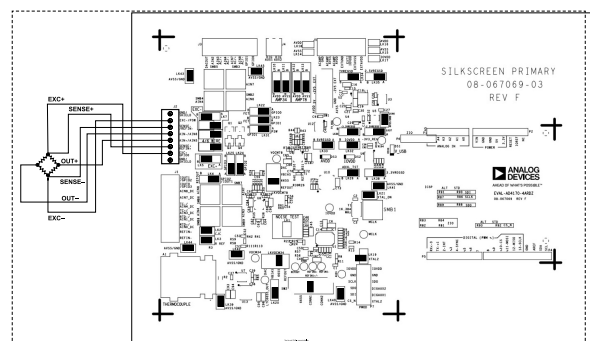

Figure 6. EVAL-AD4170-4ARDZ Load Cell Hardware Link Configuration
1. Set all links on the EVAL-AD4170-4ARDZ for load cell configuration as shown in Figure 6.